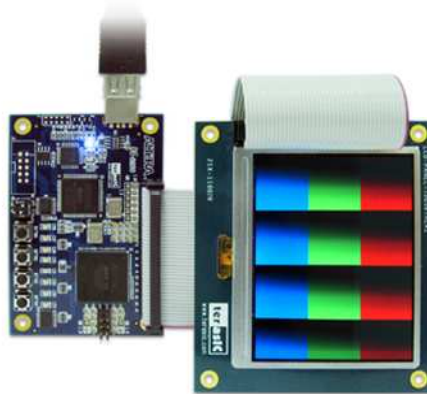

Figure 4.7. The connection setup for the pattern generator demo with MAX II Micro board.
1. Ensure the connection is made correctly, as shown in Figure 4.7.